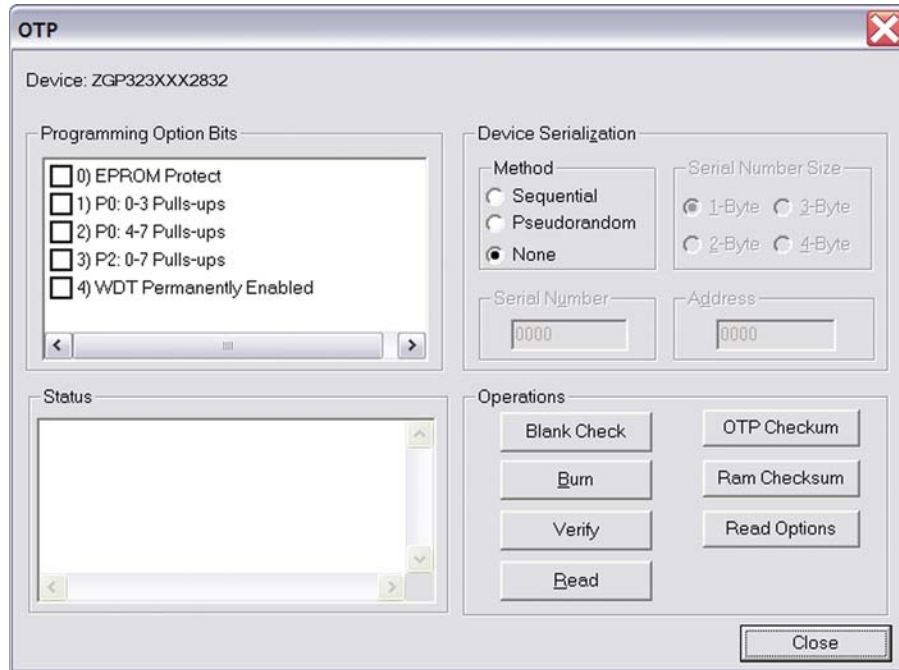

Figure 11. OTP Programming Window (Current ZDS II Project Example)
6. Select **Tools** → **OTP Programming** to open the **OTP** window, see Figure 11.